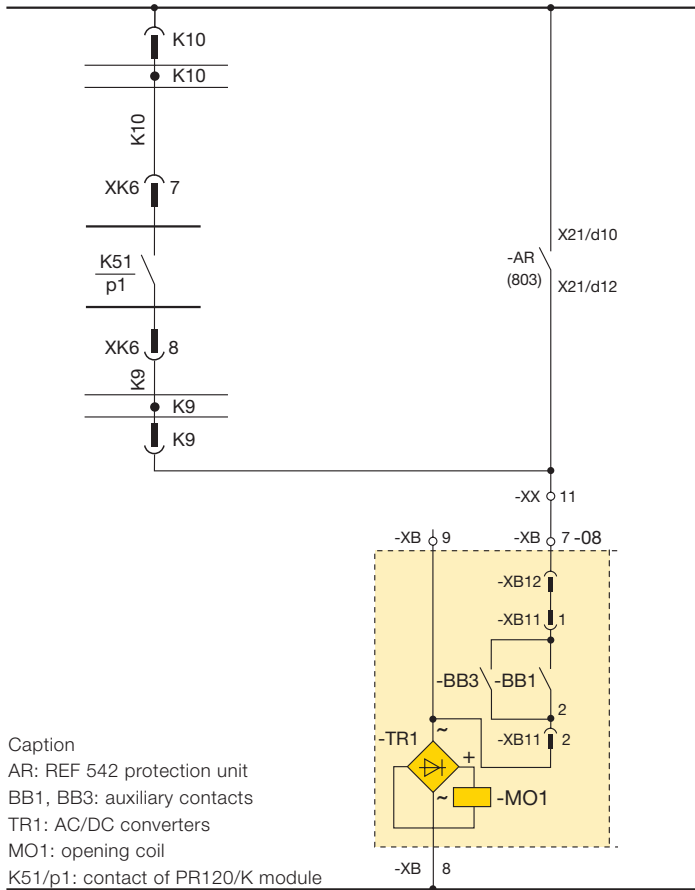

Figure 11
- and finally, to make the interlocking cabling between the signalling unit and the shunt opening release of the medium voltage circuit-breaker. For example, when the K51/P1 contact (PR120K) closes, the medium voltage shunt opening release receive the signal and command the opening of the MV circuit-breaker (Figure 11).